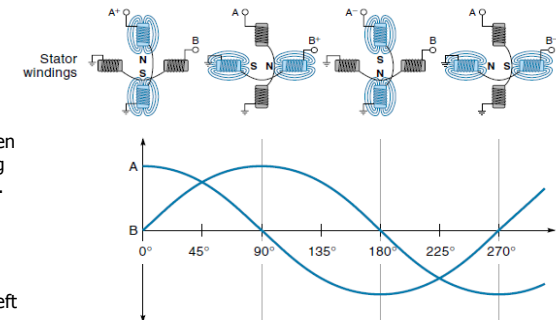

Figure 3.19 How two phase AC causes a rotating field.
- Two-phase AC consists of two individual phase voltages (Figure 3.19).
- In Figure 3.19, at 0° phase A is at peak voltage while phase B is 0 V.
- The polarity of the applied voltage causes the top winding to present a north (N) magnetic pole to the rotor and the bottom winding to present a south (S) magnetic pole to the rotor.
- For example, consider the situation at 45°. From Figure 3.19, we can see that both sets of poles are partially energized, causing the resultant N-S magnetic field to be halfway between the two poles.